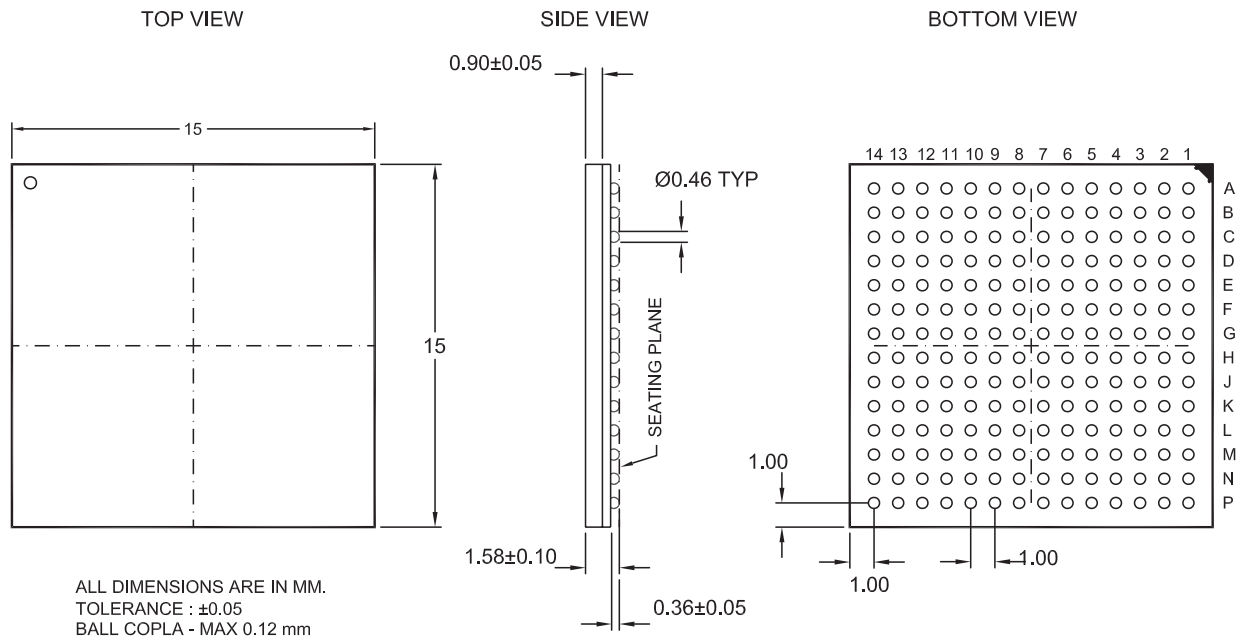

Figure 43. 196-Lead Low-Profile Ball Grid Array (15 x 15 mm, 1.0 mm pitch)
- 196-lead (Figure 43 on page 39)